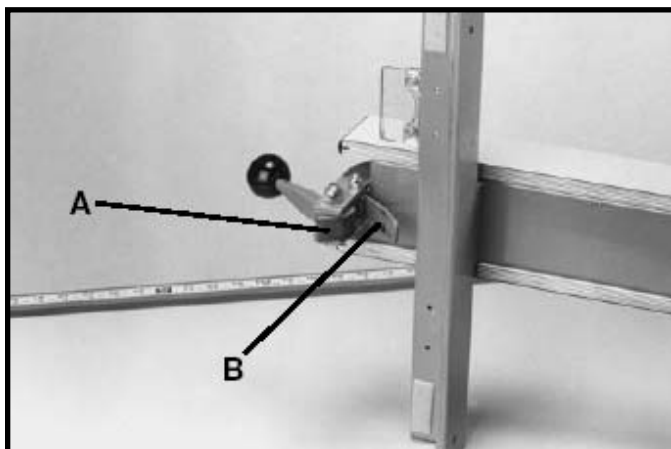

Fig. 149
2. Apply grease to cam lock (A) Fig. 149, and cam foot (B) occasionally to prevent wear.